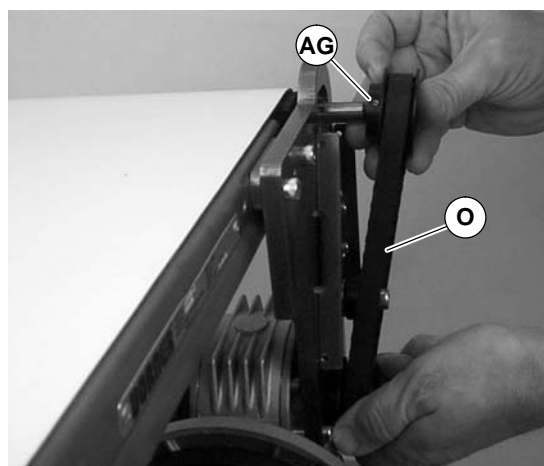

Figure 22
3. Remove timing belt (O of Figure 22).
NOTE: If timing belt does not slide over pulley flange, loosen driven pulley set screws (AG of Figure 22) and remove pulley with belt (O). For re-installation, see steps 11 and NO TAG on page 10.